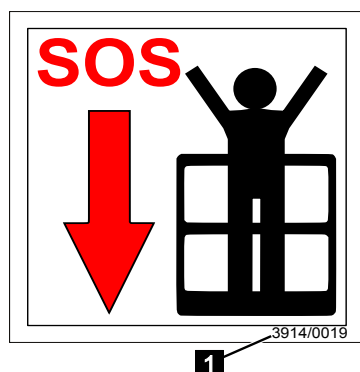

Fig. 21
Each sticker has an item number. This article number may be found in various positions on the sticker. In the example (item 1) 3914/0019 (Fig.21/1]